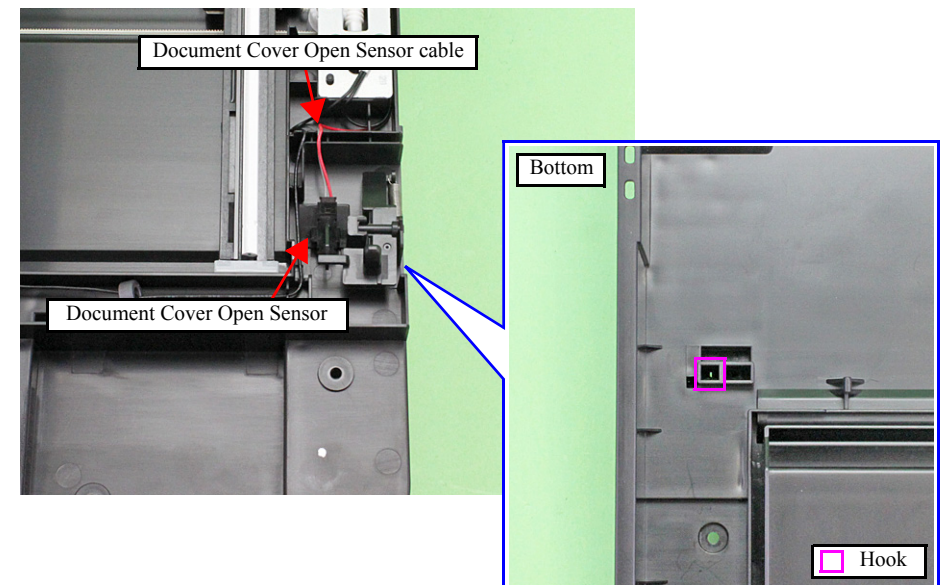

Figure 9-30. Removing the Document Cover Open Sensor
1. Release the hook (x1) of the Document Cover Open Sensor from the bottom of the Scanner Unit, and remove the Document Cover Open Sensor from the Scanner Lower Housing. (See Fig. 9-30.)